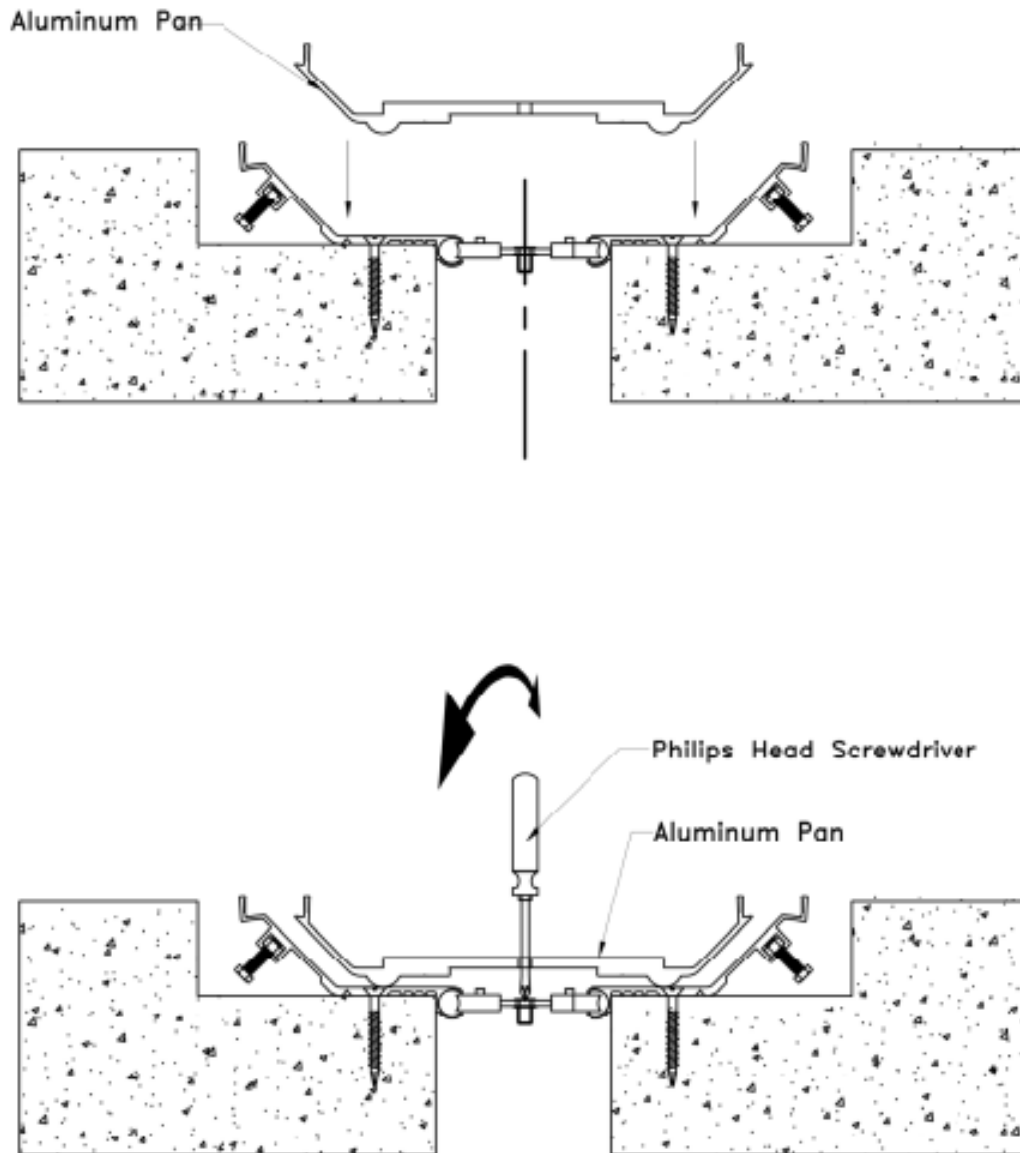

FIGURE 7
7. Center the aluminum pan on joint opening while keeping end of pan snug with wall / reference line. Use Phillips head screwdriver to fine tune alignment of seismic-centering bars to associated predrilled holes in aluminum pan. **SEE FIGURE 7**